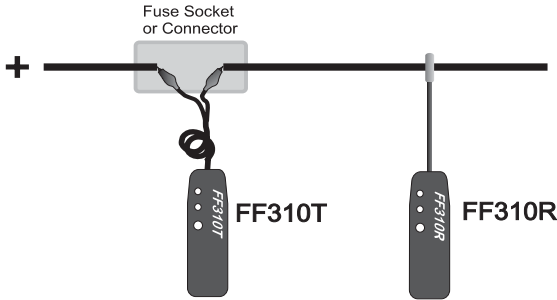
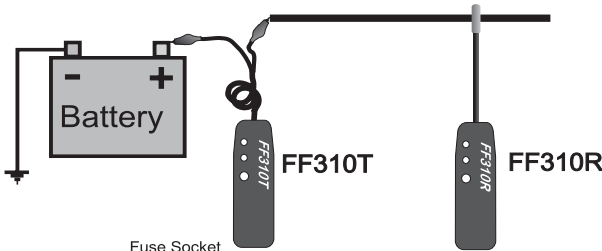

Fig.2 - Set up for tracing short or open circuits, or location of wiring
Fig.3 - Set up for tracing short and open circuits, or tracing wiring
- 6.2 Connect the FF310T in series with the short-circuited wire, making sure one of the unit's clips is connected to the circuit's positive supply (or vice versa for vehicles with positive supply connected to chassis). A fuse socket connector (in place of the blown fuse), a connector, etc., provides a convenient hook up as shown in Fig. 2 and Fig. 3 in Page 6.
- **Tracing wires downstream** (from supply to load): replacing the load for a full short circuit allows the FF310R to work at its maximum capabilities. Before proceeding, remove all electrical power from the circuit, connect the FF310T in series with the wire to trace, short circuit the load to ground (refer to **Hook Up Reference Chart** Fig.2 and 3), then reconnect power and follow instructions in section **6 – Locating Short Circuits**.
- The type and size of the leak in the circuit (impedance or resistance to ground) determines the amount of current flowing in the circuit. Small leaks (i.e. low current) will reduce the range of the FF310R accordingly. In all cases the FF310R's sensor should be positioned as close as possible to the wires, in order to maximize the signal captured by the FF310R, and set to a higher sensitivity level . For hook up refer to the **Hook Up Reference Chart** Fig. 2 and 3 in Page 6.
- 9.2 Connect the FF310T in series with the open ended wire, making sure one of the unit's clips is connected to the circuit's positive supply or ground . A fuse socket (with the fuse removed), a connector, etc., provides a convenient hook up as shown in Fig. 2, 3, 4 and 5 of the **Hook Up Reference Chart**.